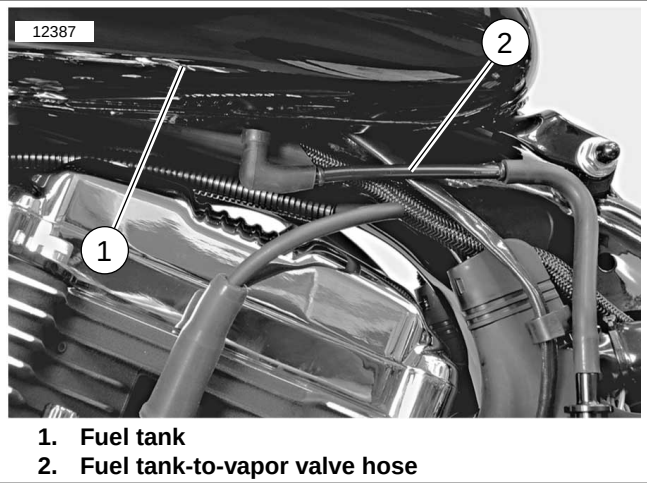

Figure 4-10. Fuel Tank Venting System
See Figure 4-10. The fuel tank (1) is vented through a stand-pipe (vent tube) within the tank. A hose (2) at the base of the fuel tank is connected to the standpipe.